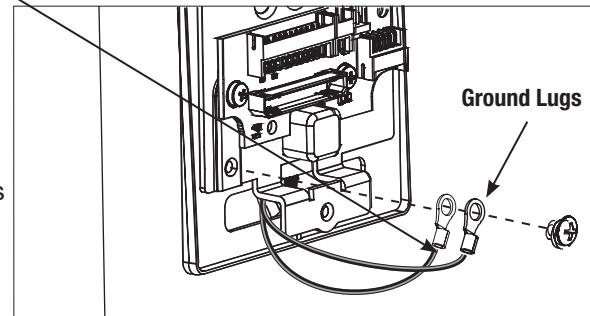

Fig. 15c
g. Secure ground lug(s) with #6-32 machine screw (Fig. 15c).